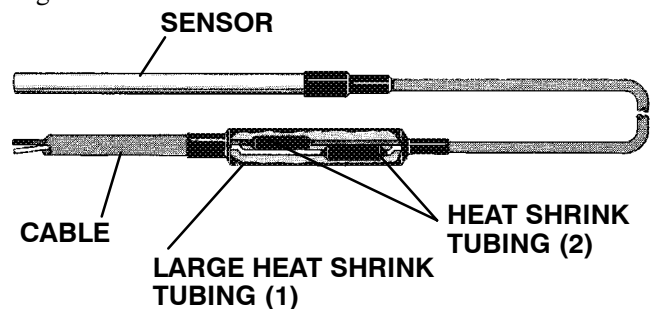

Figure 4-20. Sensor and Cable Assembly
- Slide a large piece of heat shrink tubing over the cable and the two small pieces of heat shrink tubing over the wires before adding crimp fittings as shown in Figure 4-20.
- Slide heat shrink tubing over splice so that both ends of tubing cover both ends of crimp as shown in Figure 4-20.